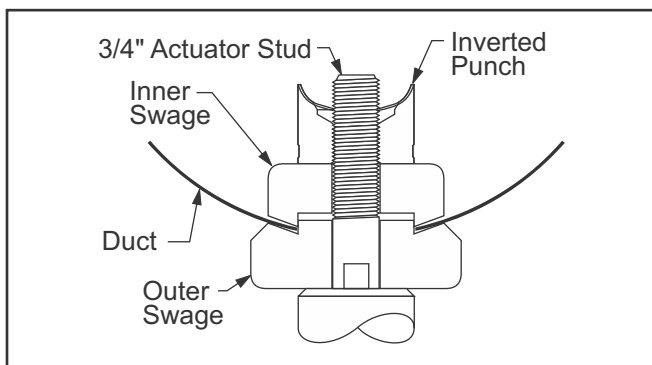

Fig. 40: 1-7/8" Swage Configuration
4. Swage Hole: Slide the 1-7/8" outer swage tool (for 1-1/2" test port) or the 60mm outer swage tool (for 2" test port) onto the 3/4" actuator stud. Insert the actuator stud and outer swage tool into the 1-7/8" hole (for 1-1/2" test port) or the 60mm hole (for 2" test port). From inside the duct slide the matching inner swage tool onto the actuator stud. Invert and thread any one of the three punches onto the actuator stud (cutting surfaces facing away from the inner swage tool) until the inner swage tool, the duct and the outer swage tool are snug. Operate the hydraulic actuator to compress the swage tools together to form the swage. Loosen and remove the swage tool. (Fig. 40)